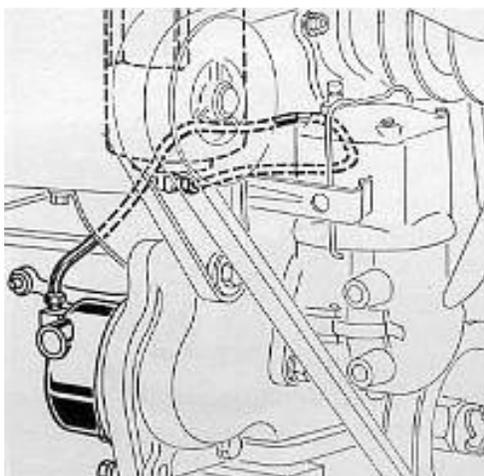

Fig. F029 - Governor external oiling system on models 2N-8N-9N.
43. The governor, shown in Fig. F0-28 is a variable speed, ball type, driven by engine timing gears and interconnected with the throttle linkage and carburetor throttle valve. Splash lubrication is provided from timing gear case and it is important that the large oil passage opening in governor ball bearing carrier plate, to be installed at top or up position to assure proper lubrication. Further lubrication is provided by an oil line which connects between rear of governor housing and oil filter as shown in Fig. F029. Early model tractors were not provided with this oil line but service parts are available to permit this approved modernization.